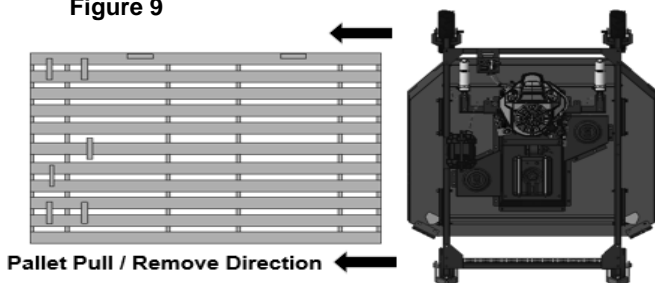

Figure 11
2. Pull Pallet out from underneath Machine in direction shown (*Figures 11 & 12*).